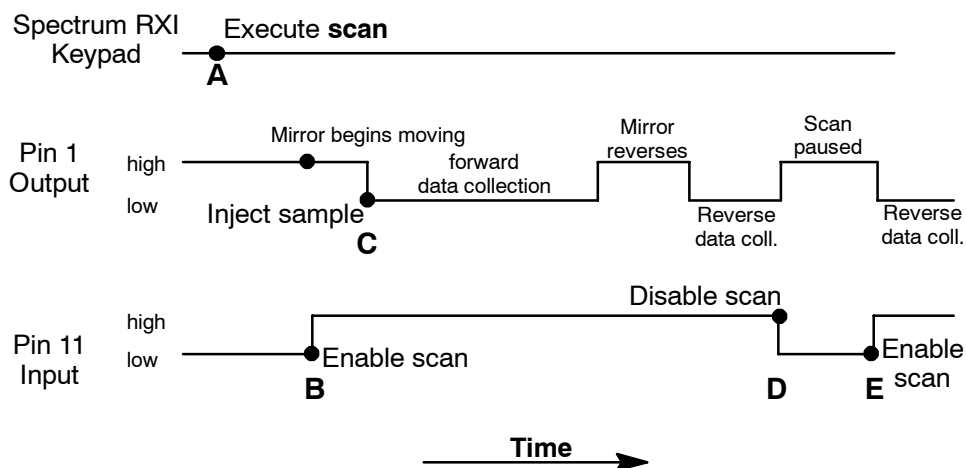

Figure 2-6 An Experiment Using the External Scan Control Lines
This is an example of a typical use of the external scan control lines, enabling a sample to be inserted at the instant that the Spectrum RXI begins collecting data. The steps below describe the actions taken, and correspond with the labelled points in Figure 2-6.
- 1 With the pin 11 input held low (scan disabled), execute the Scan command at the Spectrum RXI (point A in Figure 2-6).